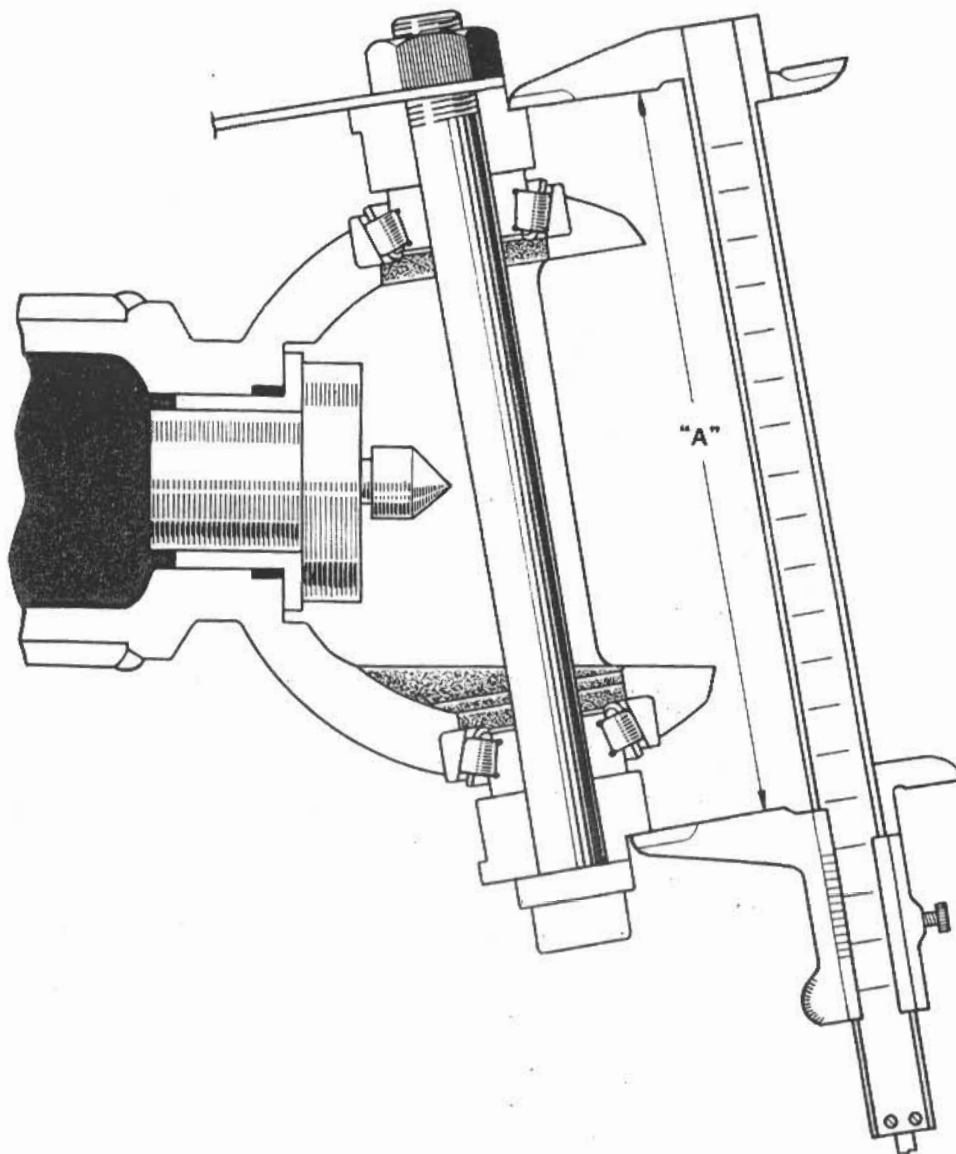

Fig.5-16 Measuring Distance "A"
b. Install the centering gauge attachment (b) and the steering knuckle lower bearing onto the centering gauge rod (a), then assemble the centering gauge rod onto the axle housing end from the bottom as illustrated in figure 5-16.
e. After having obtained the specified pre-load, measure and record the distance "A" between the centering gauge attachments as illustrated in figure 5-16.